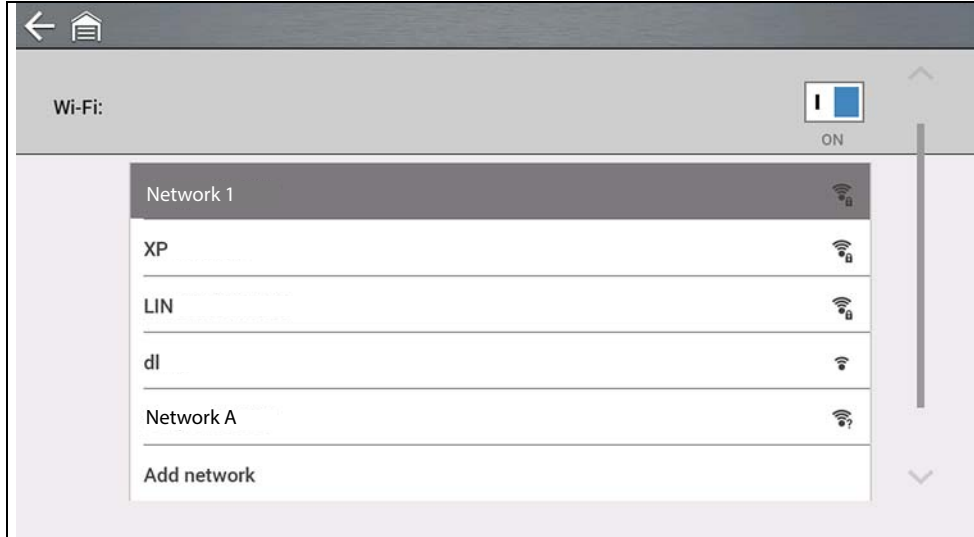

Figure 12-2
2. To connect, select your network from the available networks (Figure 12-2).